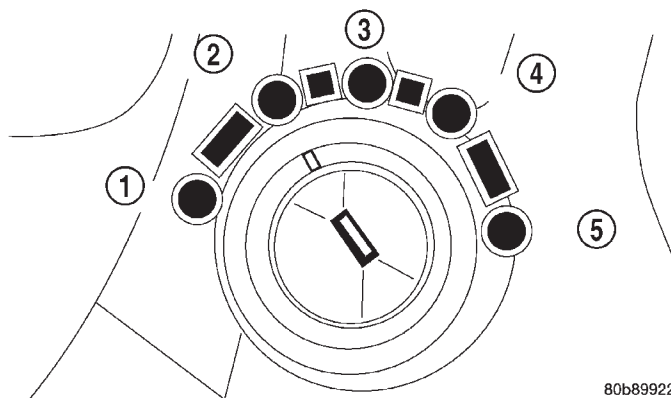

Fig. 40 Ignition Key/Switch Position
(1) Place vehicle in park, and turn ignition key to the "LOCK" position (Fig. 40).